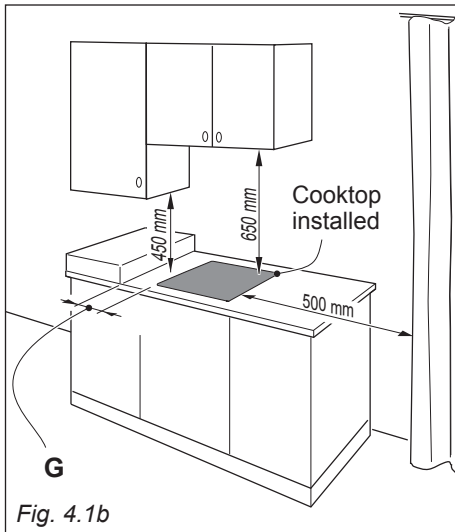

Fig. 4.1b
- There must be a distance of at least 650 mm between the hob and any wall cupboard or extractor hood positioned immediately above (see fig. 4.1b).